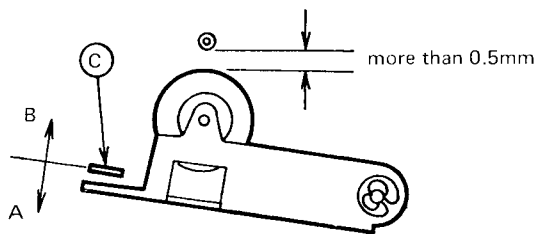

Fig. 24
- 1) If the tape is projected from the cassette half at the beginning of cue action, adjust it by bending the part (C) of pinch arm lever to the A direction as shown in Fig. 24.
- 2) If the tape is fast forwarded at the beginning of cue action, bend the part (C) to the B direction as shown in Fig. 24.
- 1) If the tape is projected from the cassette half at the beginning of review action, bend the part (C) to the A direction as shown in Fig. 24.
- 2) If the tape is fast forwarded at the beginning of review action, bend the part (C) to the B direction as shown in Fig. 24.